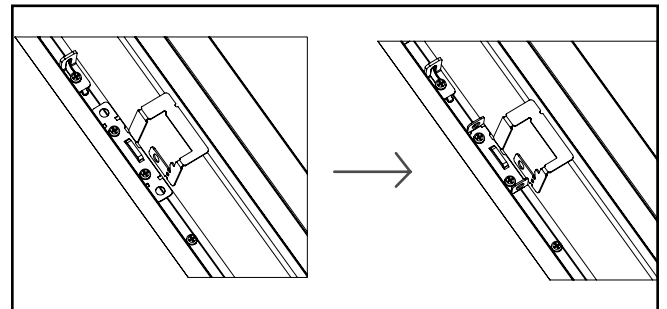
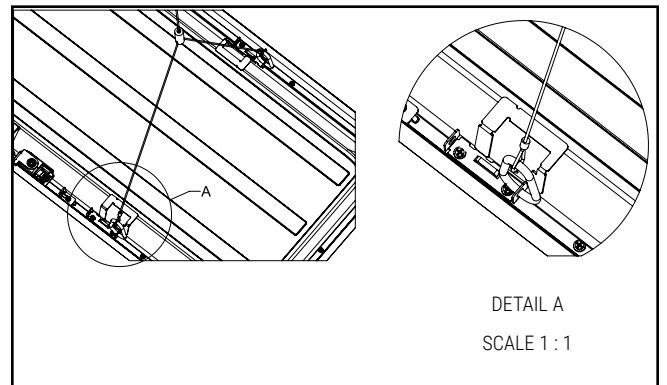

Figure 16.
Figure 17.
6. For 1x4, 2x2, 2x4, and 6"x4 fixtures, fold edges of clips up as shown in Figure 16, and attach carabineer hook. See Fig.17.